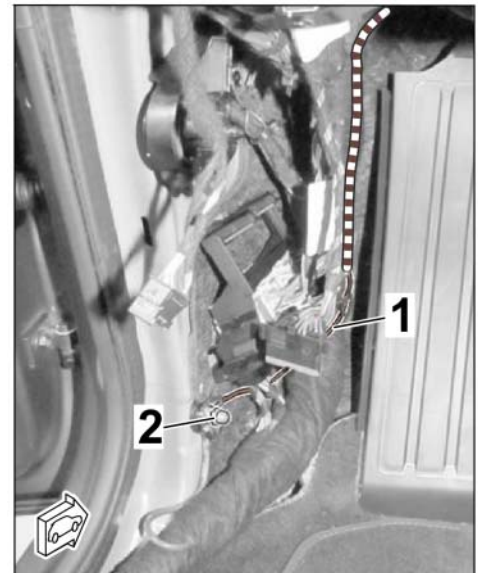

*Figure 34*
2.6.8 Install pin connector socket (3-pin) with clip onto the dashboard bracket and connect plug connection (3-pin) ( $\Rightarrow$  *Figure 34*).